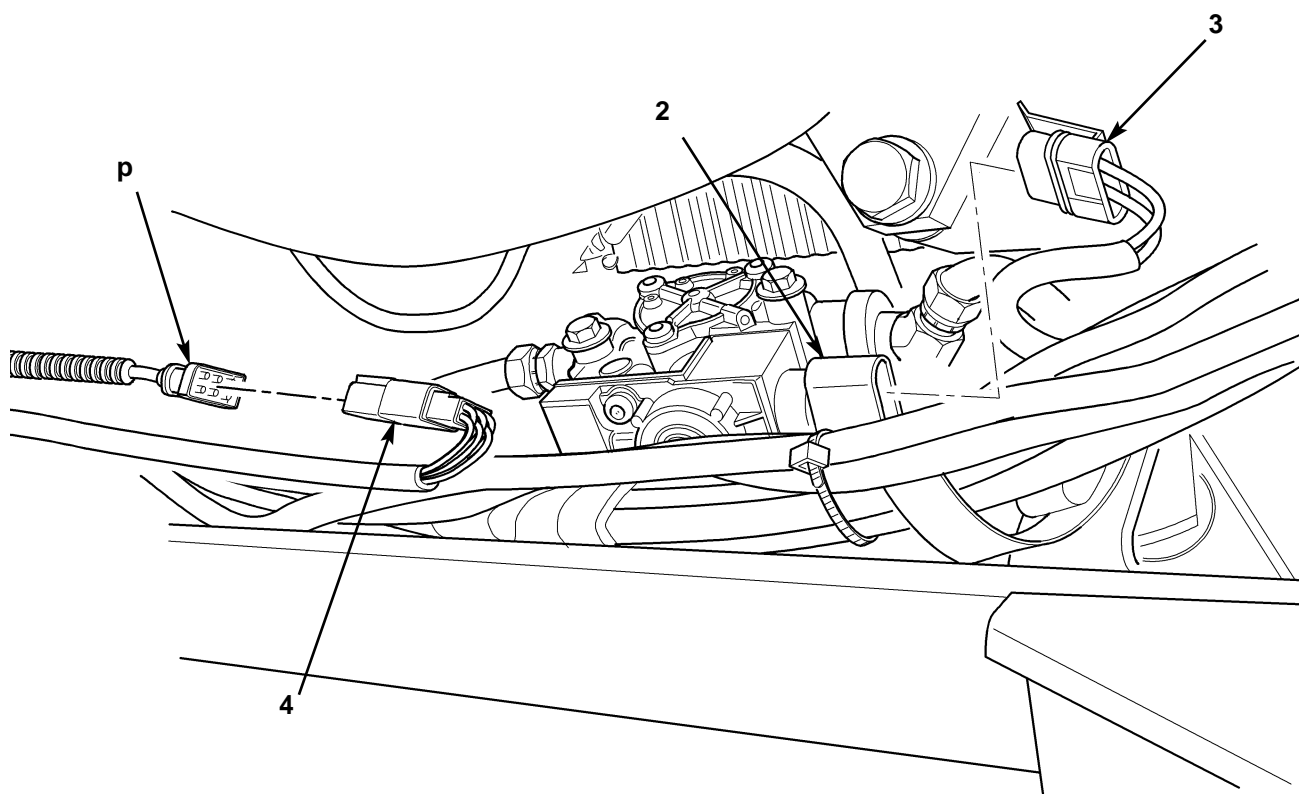

Figure 8. Connecting Front Wheel Sensor and Modulator.
4. Connect modulator harness connector (figure 8, item 3) to front modulator (figure 8, item 2), and connect wheel sensor cable (figure 8, item 1) to wheel sensor harness connector (figure 8, item 4).